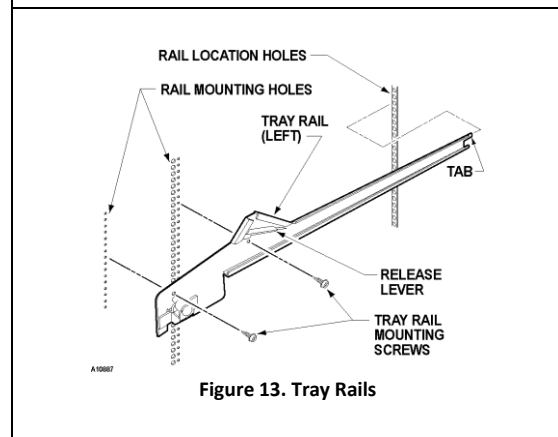

Figure 13. Tray Rails
4. Locate the release lever on the left and right tray rails. (See Figure 13) Swing the release levers up to unlatch.
6. Remove the two tray rail mounting screws to remove both the left and right tray rails from the left and right sidewalls. (See Figure 13)